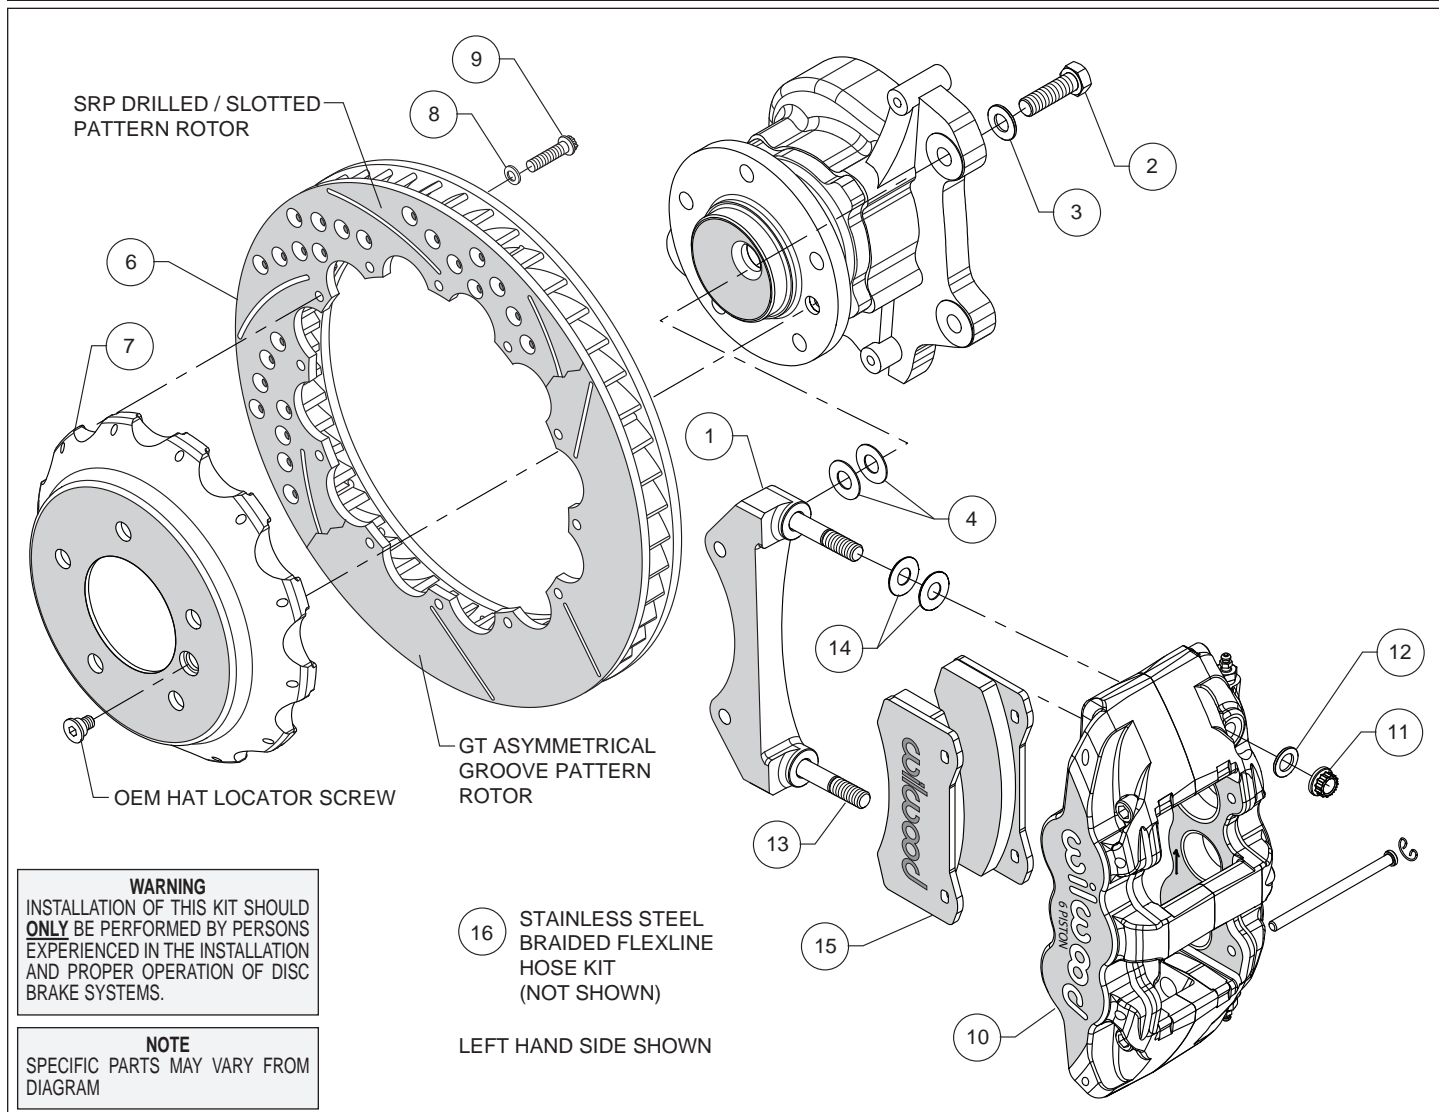
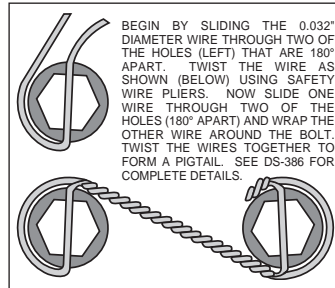

Figure 1. Typical Installation Configuration
Figure 3. Safety Wire Diagram
Assembly Instructions (numbers in parenthesis refer to the parts list and Figure 1 on the preceding pages):
- The caliper mount bracket (1) should initially be installed with clean, dry threads on the mounting bolts. Orient the bracket as shown in Figure 1, and Photo 1. Install bracket using mount bolts (2), and washers (3). Initially place two .033" thick shims (4), on each bolt between the bracket and upright, Figure 1. Temporarily tighten the mounting bolts. **NOTE:** The bracket must fit squarely against the mount bosses on the upright. Inspect for interference from casting irregularities, machining ridges, burrs, etc. Later, after the caliper alignment has been checked, the mount bolts will be secured using red *Loctite*® 271.
- Orient the rotor (6) and the hat (7) as shown in Figure 1 and Photo 2. Attach rotor to hat using bolts (9) and washers (8). Using an alternating sequence, apply red *Loctite*® 271 to the threads and torque bolts to 155 in-lb. For an added measure of security, the bolts may be safety wired using standard 0.032 inch diameter stainless steel safety wire as shown in Figure 3. Please refer to Wilwood's data sheet DS-386 (available at www.wilwood.com/Pdf/DataSheets/ds386.pdf) for complete safety wire installation instructions.
- NOTE:** This kit contains distinct right and left hand calipers that must be mounted in a specific direction, as described below. Lubricate the caliper mounting studs (13) with lightweight oil. Initially place two .030" thick shims (14) on each stud as shown in Figure 1 and Photo 4. Mount the caliper (10) onto the bracket (1) using lock nuts (11) and washers (12), Figure 1. Ensure that the caliper is mounted so that the largest pistons are at the rotor exit end of the caliper, in relation to the direction of rotor rotation. Temporarily tighten the lock nuts and view the rotor through the top opening of the caliper. The rotor should be centered in the caliper, Photo 5. If not, adjust by adding or subtracting shims (4 and/or 5) between the bracket and the upright. Always use the same amount of shims on each of the two mounting bolts. Once the caliper alignment is correct, remove the bracket mounting bolts one at a time, apply red *Loctite*® 271 to the threads, and torque to 60 ft-lb.
- Remove the two pad retaining pins from the caliper by carefully popping out the pin retaining clips and sliding out the pins. Insert the brake pads (15) into the caliper from the bottom, Figure 1, and Photo 6, with the friction material facing the rotor and secure the brake pads in place with the pad retaining pins and clips, Photo 7. Reinstall the caliper onto the caliper mounting bracket and temporarily tighten the lock nuts. Check that the top of the brake pad is flush with the outside diameter of the rotor, Photo 8. If not, adjust by adding or subtracting shims (14) between the caliper and the bracket. After the caliper pad height is set, torque the caliper lock nuts (11) to 47 ft-lb.